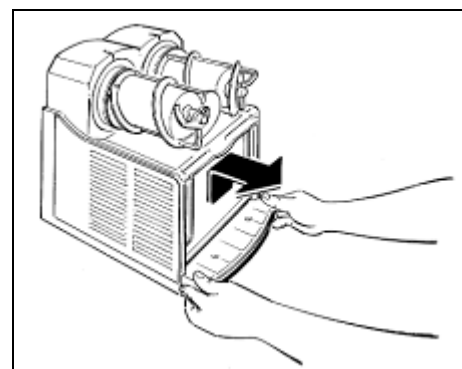

Fig. 9
- **R**emove the drip tray by moving it upward and pulling it outward (fig.9).